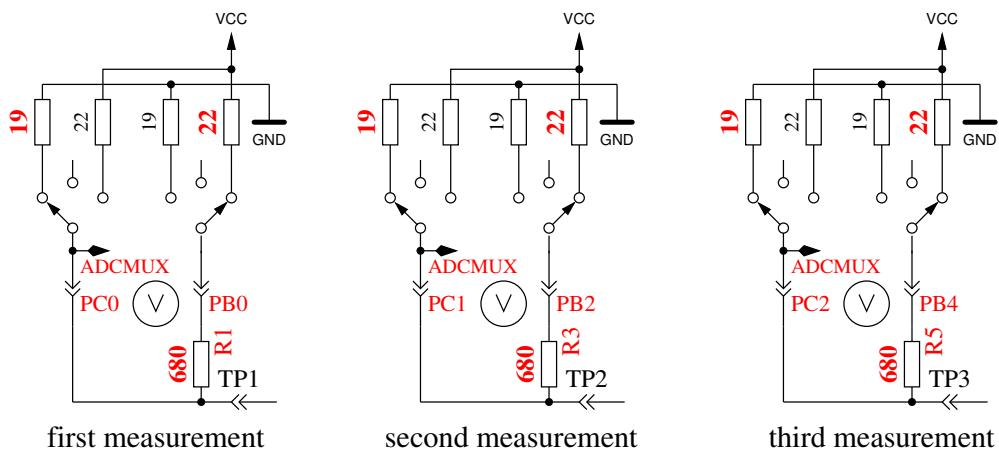

Figure 5.47: Measurement of internal resistance of Port C switched to GND
5. **This step tests the capability of GND (-) connected $470k\Omega$ resistors (H) to pull the test pins to GND.** Row 1 shows the text “RH-”. Row 2 should display zero for all three pins.
6. **This step tests the capability of VCC (+) connected $470k\Omega$ resistors (H) to pull the test pins to VCC (+).** Row 1 shows the text “RH+”. The results are shown als difference to VCC and should be near zero. Great differences from the best value for test 5 and 6 are errors such as isolation problem, flux material or damaged port.
8. **Measuring of internal resistance of pin output switched to the GND signal.** This test and the follwing tests will only be done, if the option AUTO_CAL is selected. The internal resistance of the port C outputs switched to GND (-) are measured with the current of to VCC (+) switched 680Ω resistors, see Figure 5.47. Only the three pins of the ADC port are measured, the resistor port B (PB0,PB2 and PB4) can not be measured without hardware modification. Is is assumed that the port resistance of the different ports are nearly identical. The resistor value will be shown in the next test.